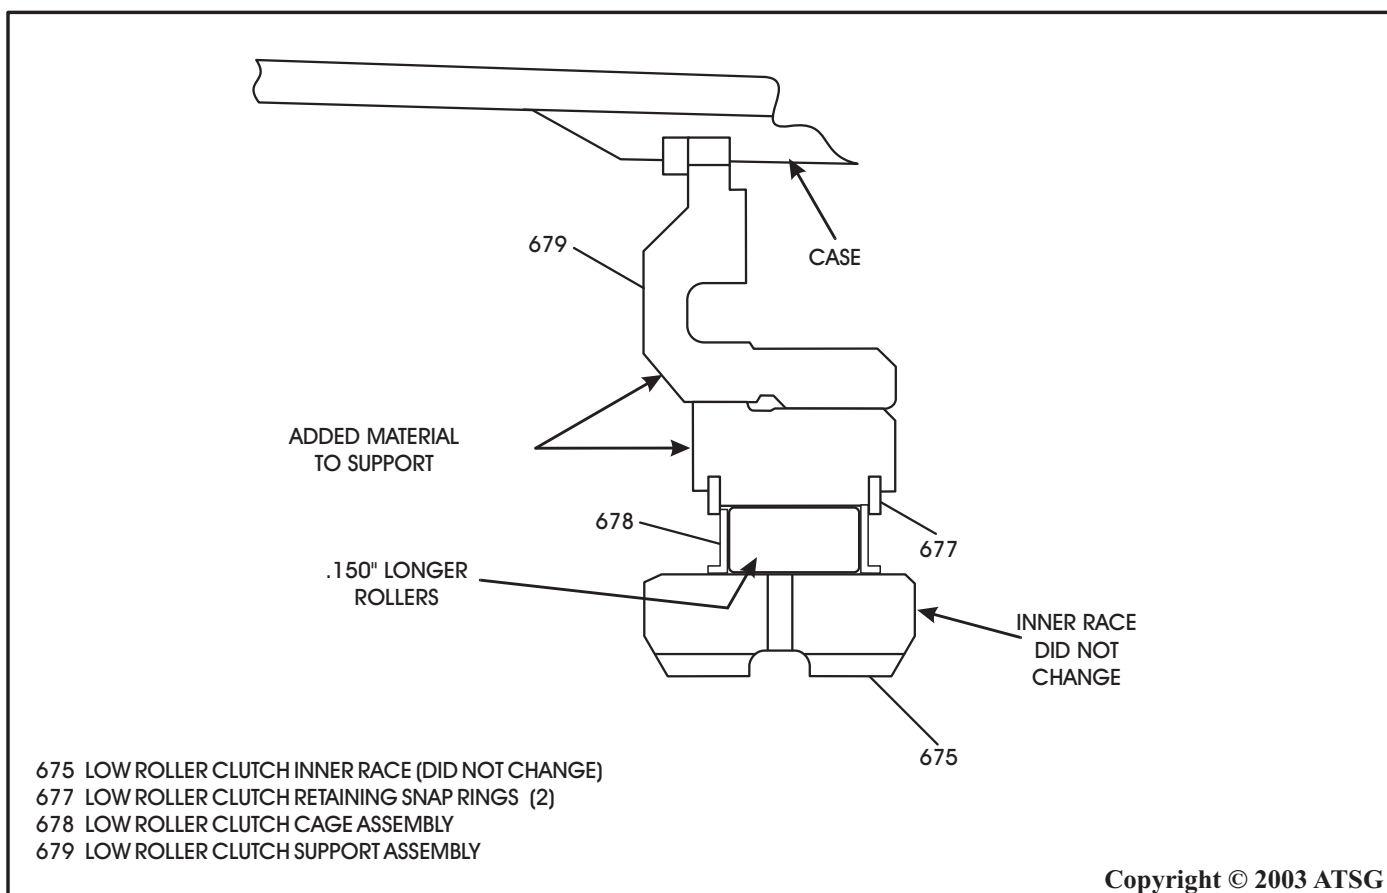

Figure 18
CHANGE: Beginning on June 19, (Julian Date 170) 1986, all THM 700-R4 transmissions were built with a new design Low Roller Clutch assembly with .150" longer rollers which also required a new design cage, as shown in Figure 18.
- (1) **LOW ROLLER CLUTCH ASSEMBLY** - The rollers increased in length by .150", which would also change the cage, as shown in Figure 18.
- (2) **LOW ROLLER CLUTCH SUPPORT ASSEMBLY** - Increased length of the support and cam assembly, to accommodate the new design longer low roller clutch, as shown in Figure 18.